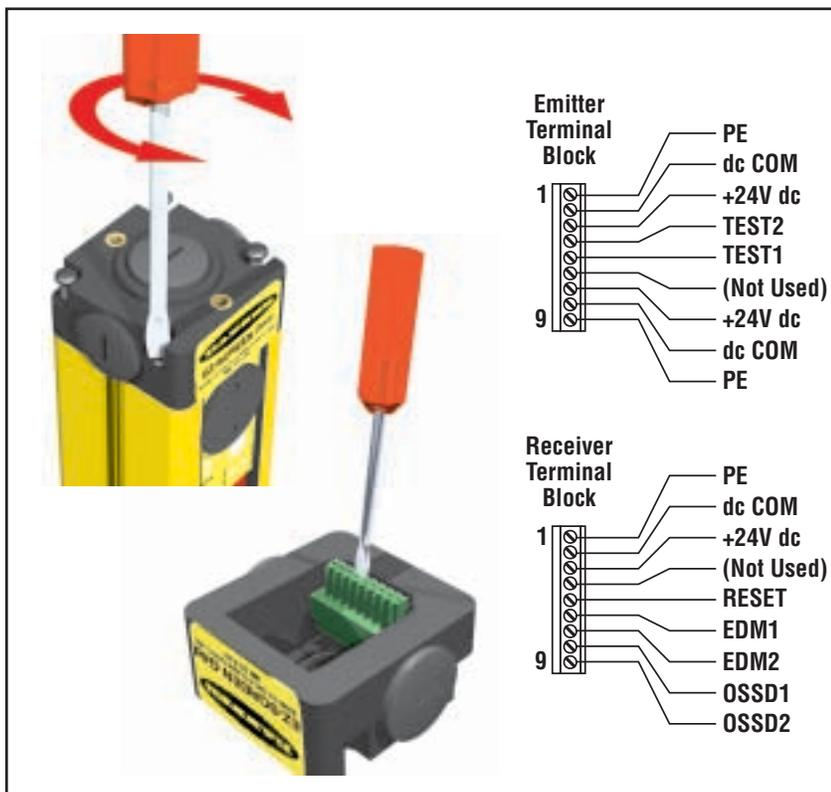

Figure 3-11. Making connections to the sensor terminal blocks
For easy wiring, each EZ-SCREEN sensor has a removable modular terminal block inside one end cap, at the same end as the indicators. See Figure 3-11. To make connections:
- 4) Route the wires or cabling through the bracket (if necessary) and the wiring chamber end cap. Remove outer cable insulation as necessary (approximately 1" to 2") and strip the individual wire insulation approximately 7 mm (0.25"); make connections to terminals as indicated in Figure 3-11. Torque the terminal screws to 0.22 to 0.25 N m (1.9 to 2.2 in. lbs.) recommended torque.